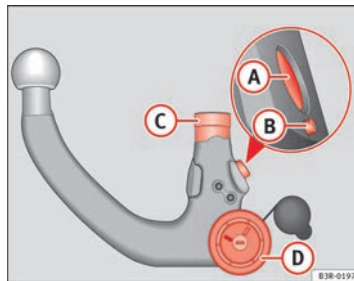

Fig. 153 Removable towing bracket: Ball joint
- Check the locking pin (A), release pin (B), shaft section (C) and knob (D) ⇒ fig. 153 on the ball joint to make sure they are clean and undamaged.